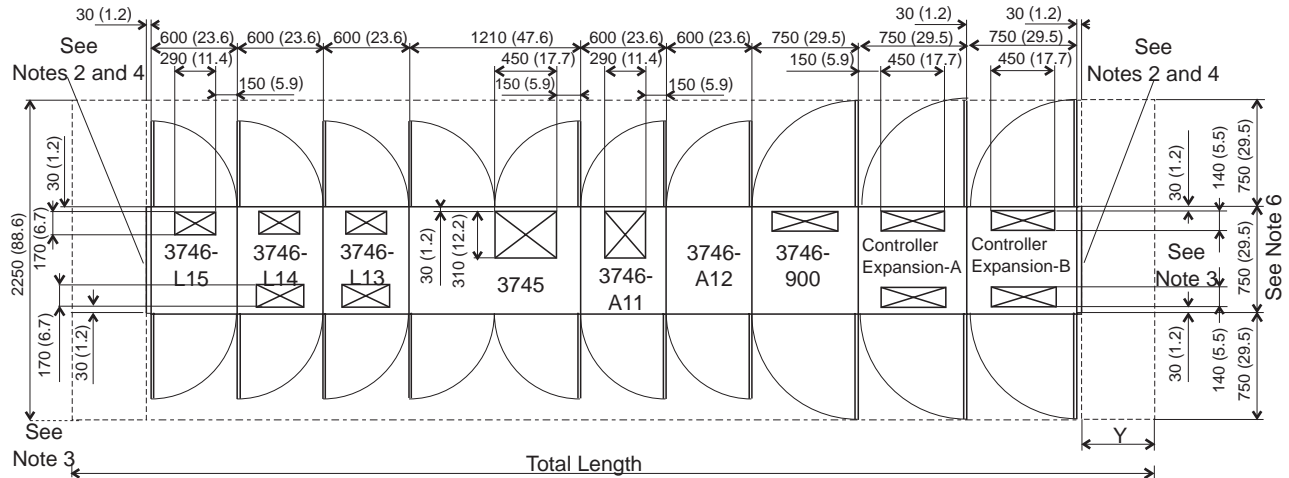
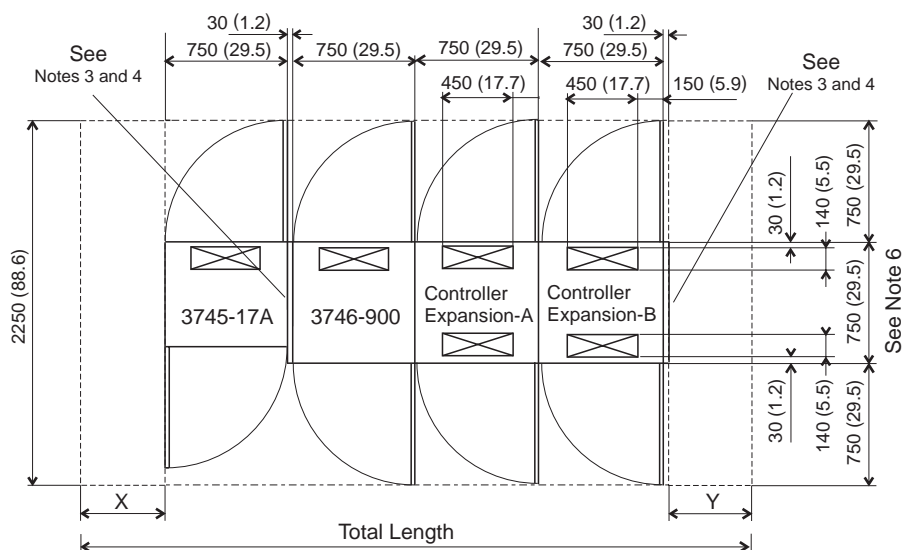

Figure 1-3. Plan View of a 3745-X1A/3746/3746-900/Controller Expansion Configuration
Figure 1-5. Plan View of the 3745 17A/3746-900/Controller Expansion
- Step 9. ____ Make sure that the installation area is in accordance with Figure 1-3 on page 1-9, or with Figure 1-5 on page 1-10. If not, inform the customer.